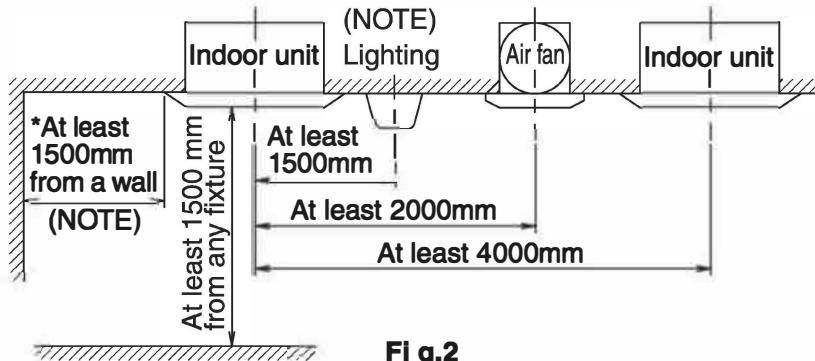

Fig.2
- Any vents, light fixtures, or other appliances which may disturb the airflow might cause the top side to become dirty if located too nearby, so follow Fig.2 when installing.